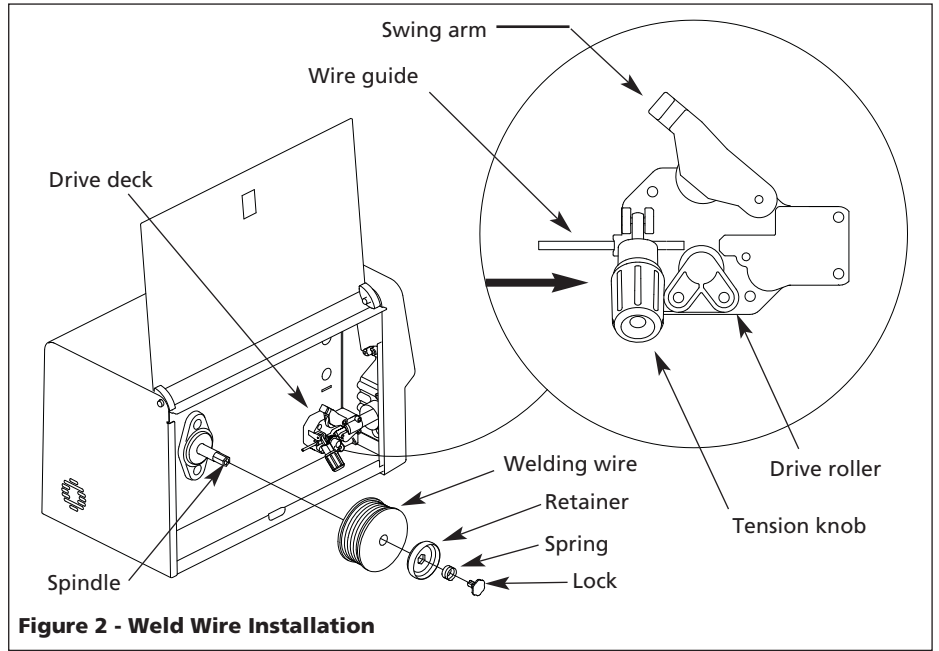

Figure 2 - Weld Wire Installation
- Diameter of welding wire matches groove in drive roller on wire feed mechanism (See Figure 2).